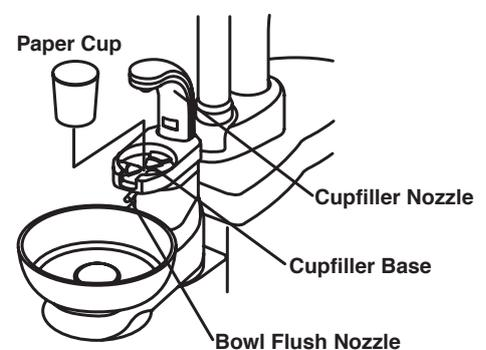

Fig.3-22 Sensor Cupfiller
### (5) Sensor Cupfiller (Optional) (Fig.3-22)